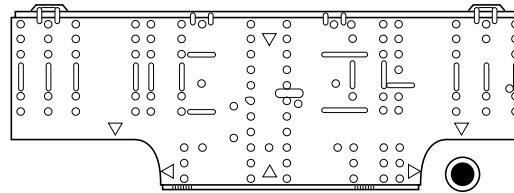

Fig. 3-66
- (1) Attach the rear panel to the wall with the 10 screws provided. (Fig. 3-66)